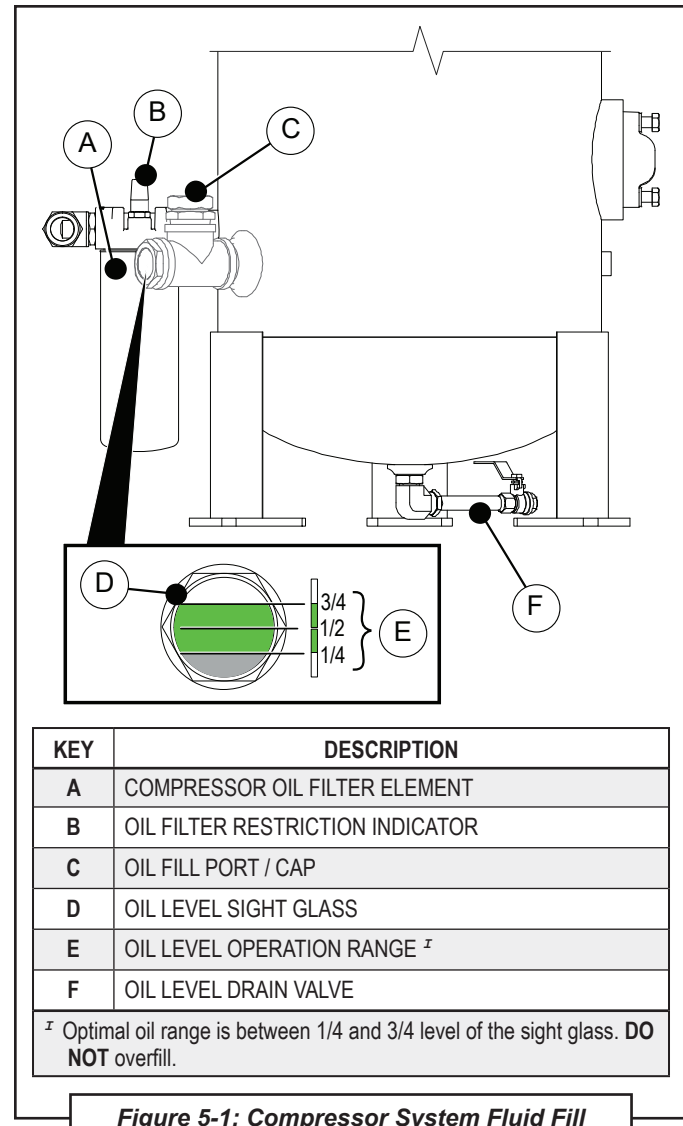

Figure 5-1: Compressor System Fluid Fill
Consult **Figures 5-1** and **5-2**, and the following procedure to check the compressor oil.
1. Locate the oil fill port on the sump tank (Figure 5-1).
- 4A. Carefully add lubricant, monitoring the oil level, and allowing time for oil to level out. Refer to Figure 5-1 for correct operation oil fill levels.
- 3B. Place a vessel, or a funnel extension to a vessel, capable of containing at least eight (8) gallons of oil below the oil drain (Figure 5-1 [F]) to catch the oil as it discharges.